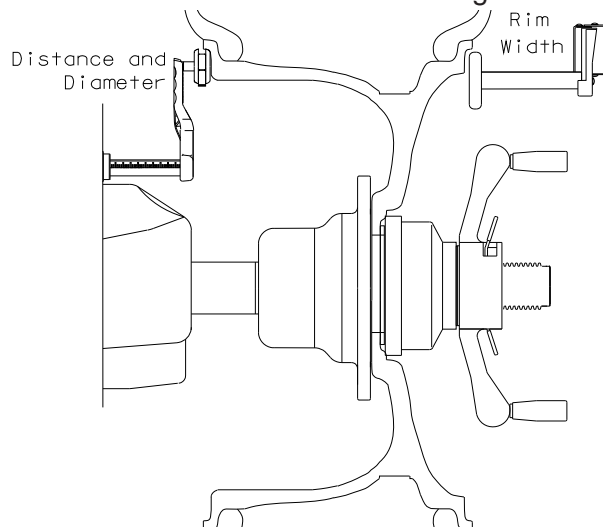

Figure 22
4.5.1 Rim Distance (offset) and Diameter - Move the rim offset arm to the inside edge of the rim, touch the pointer to the rim edge, touch the tip of the width arm to the outside rim edge where weights will be placed as illustrated in Figure 22. Hold arms steady for about a second. The beeper will sound when the parameter values are calculated and entered automatically. Return the arms to its home rest position on the balancer. Do not allow the measurement arms to "dangle".